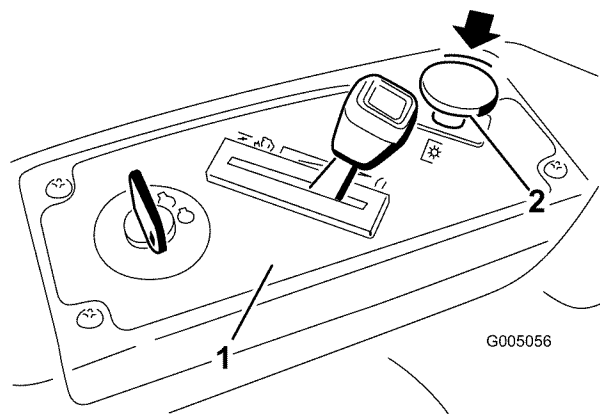

**Figure 13**
3. Pull up on the blade control switch to move it to the On position and engage the blades (Figure 13).